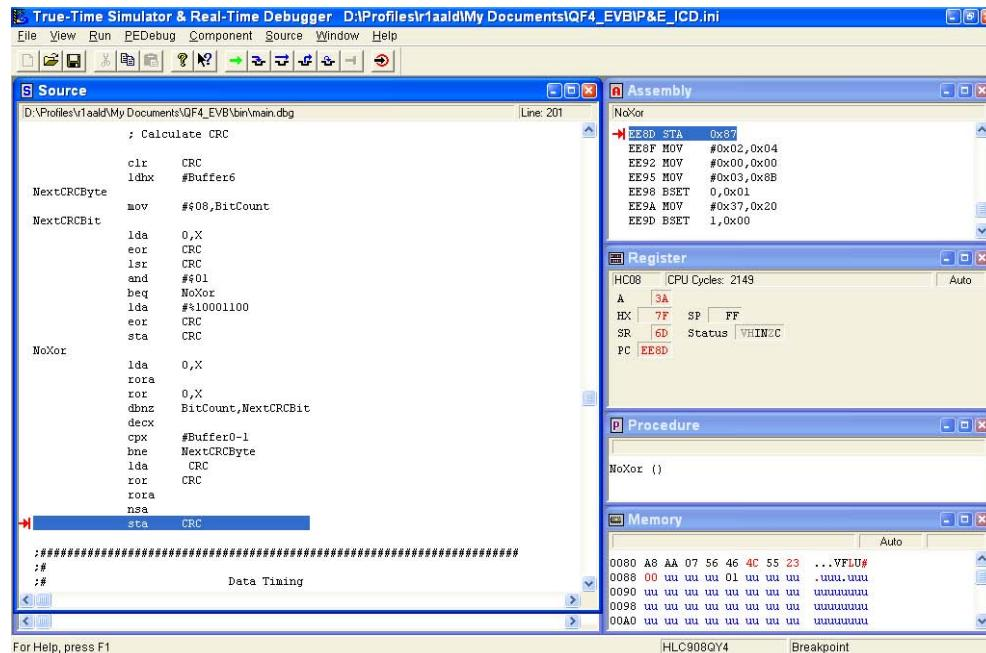

Figure 10. Calculating the CRC
4. **Calculating the CRC** — The CRC byte is calculated using the code shown in Figure 10. The CRC is checked by the receiver to ensure proper transmission.